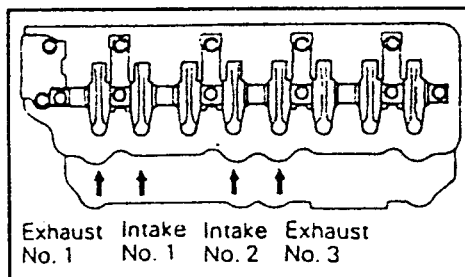

Fig. 15.16a. — Location of the valves to be adjusted when the piston of No. 1 cylinder is at top dead centre.
- Adjust these two valves and in the same engine position the other valves shown in Fig. 15.16a.